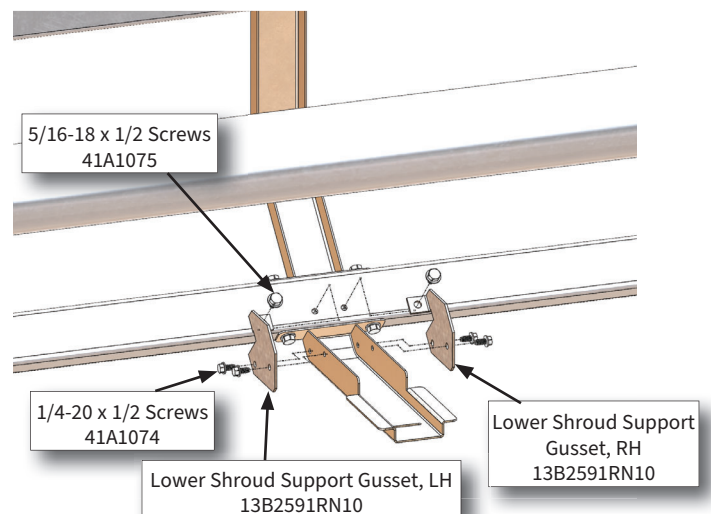

Figure 47: Lower Shroud Supports Gusset
3. Add (1) 13B2591RN10 gusset to RH side of shroud support & attach with (2) 41A1074 screws (Figure 47). Add (1) 13B2591LN10 gusset to LH side of shroud support & attach with (2) 41A1074 screws. Partially tighten screws.
4. Add (2) 41A1075 screws to tabs on gussets to attach them to the lower spreader bar.